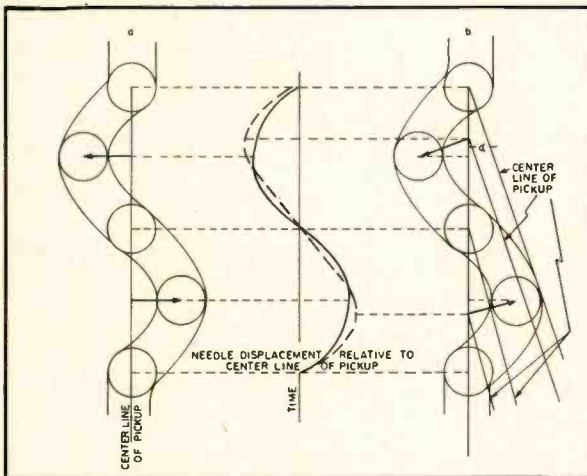

Fig. 2. Distortion caused by tracking error arrows indicate maximum stylus displacement relative to pickup.
It is evident that an arm which maintains tangency well due to its offset design may actually produce more side thrust than an arm with greater tracking error, and distortion generated by non-tangency cannot be laid primarily at the door of improper seating of the stylus in the groove. Even if the arm holds the pickup at an angle to the groove tangent, the stylus may follow the groove convolutions without error. Stylus motion in an oblique, pickup however, will not be perpendicular to the groove, and instantaneous stylus displacement relative to the longitudinal axis of the pickup will not correspond to the recorded signal. Figure 2 shows consecutive positions of styli in two identically modulated grooves. In (A) there is no tracking error. Displacement of the stylus relative to the pickup, plotted against time, is a copy of the groove's wave form. In (B), with the stylus tip still following the groove, a tracking error of α results in a distorted shape of the same graph. As can be seen, maximum stylus displacement relative to the center line of the pickup occurs first too soon and then too late within the recorded period. Maximum stylus displacement across the pickup is also greater in amplitude than maximum displacement relative to the center line of the groove.